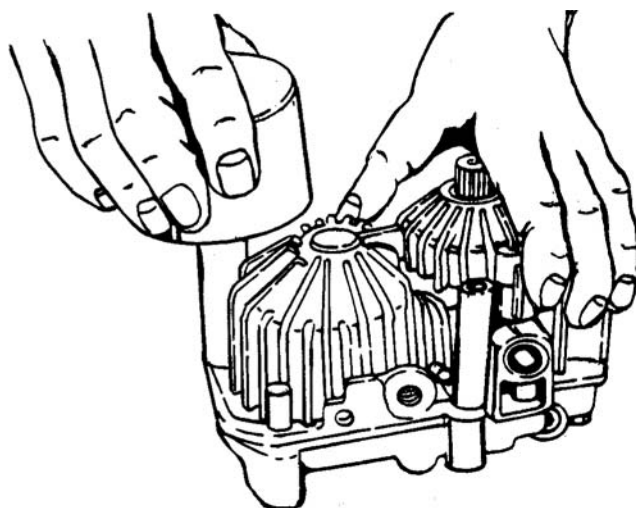

Figure 6-77. Installing Cap Onto Housing
- b. Screw cap onto the housing. (This cap has a left-hand thread.) See Figure 6-77.